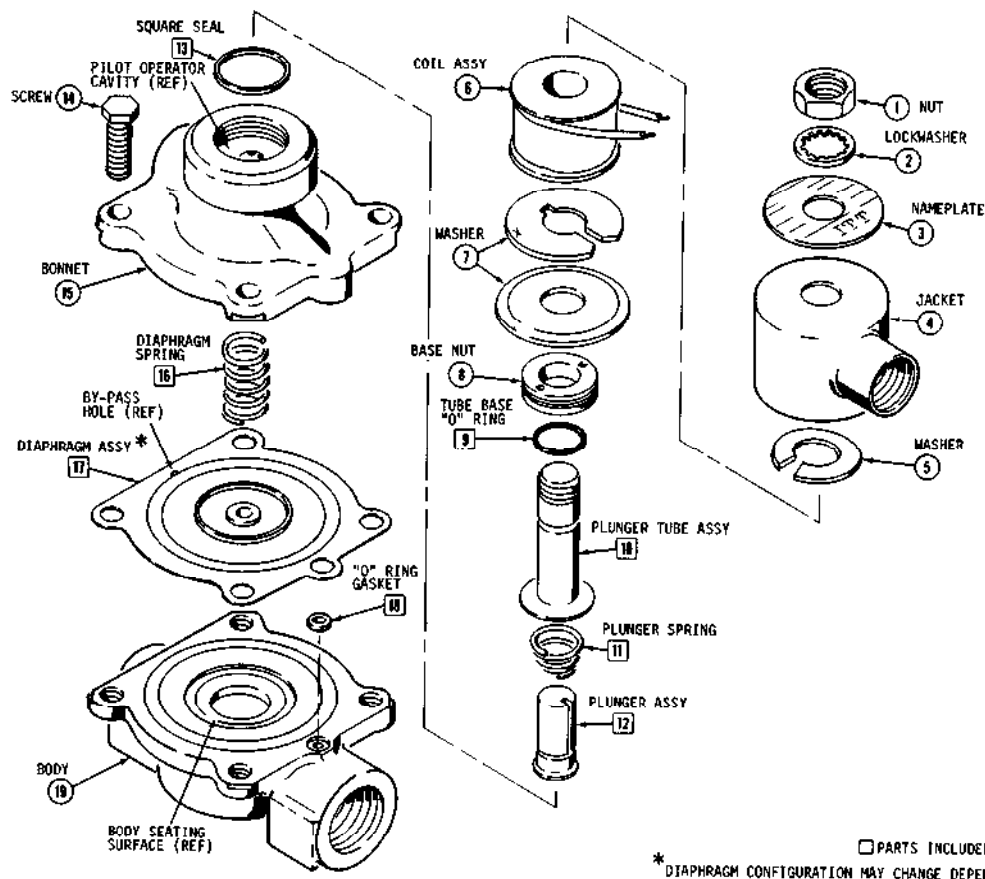

Fig. 3. Typical S211 Valve
5. Wire in accordance with applicable local and national electrical codes. Loosen the hex nut (Fig. 3, No. 1) to rotate the coil jacket (Fig. 3, No. 4). Using a torque wrench, tighten the hex nut to 20-25 inch pounds when installation is completed.
Disassembly and Reassembly. (See Fig. 3.)
1. Unscrew the hex nut (1). Remove the lockwasher (2).
2. Lift off the coil jacket (4) with nameplate (3) and coil (6) from the plunger tube assembly (10). Also remove the bottom washers (7).
3. Remove the coil and upper washer (5) from the coil jacket.
4. Use an ITTGC Spanner Nut (106198E) to remove the base nut (8).
5. Remove the tube base "O" ring (9) and remove the plunger tube assembly (10) from the bonnet (15). All parts numbered 9 through 13 on Fig. 3 will be replaced by the new parts in the Universal Kit.
6. Remove the bonnet cap screws (14), and lift the bonnet off of the body (19).
7. Remove the parts numbered 16, 17, and 18 on Fig. 3. These parts will all be replaced by the new parts from the Universal Kit. If necessary, tap the body against your hand or a flat surface to free the "O" ring gasket (18).
8. Place the new "O" ring gasket (18) into its hole in the body (19).
9. Replace the diaphragm assembly (17). The plate on the diaphragm assembly must face away from the body. Be sure that the diaphragm is lined up properly (see CAUTION above Step 8).
10. Replace the diaphragm spring (16) as shown in Fig. 3. Reassemble the bonnet (15) onto the body (see CAUTION above Step 8), and replace and tighten down the bonnet cap screws (14).
12. Install the plunger spring (11) small diameter down onto the plunger assembly (12). Insert the final assembly of (11) and (12) into the plunger tube assembly (10).
13. Place the plunger tube assembly, with the plunger spring and plunger in it, into the bonnet operator cavity (REF.). Place the new tube base "O" ring (9) onto the plunger tube assembly as shown in Fig. 3.
14. Replace the base nut (8) onto the plunger tube (10). USING A TORQUE WRENCH, TIGHTEN THE BASE NUT INTO THE THREADS ON THE BONNET TO 18 TO 24 LB. IN.
15. Replace the bottom washers (7) onto the plunger tube. The raised outer edge of the bottom washer which is closest to the bonnet (forms a complete
Standard Model Fig. 3.
See Fig. 3 for an exploded view of a typical S211 Model "A", and Fig. 4 for an exploded view of a typical S211 Model "B" Explosion-proof operator assembly.